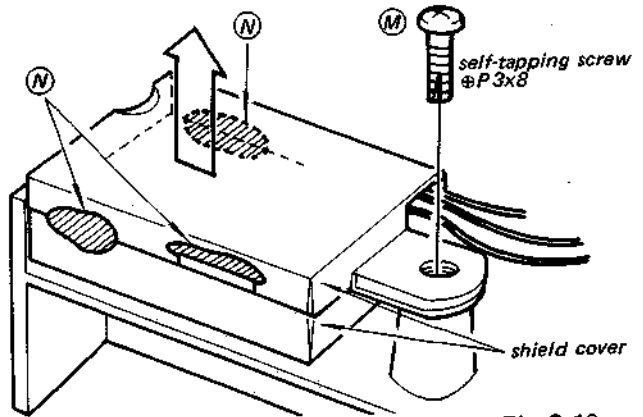

Fig. 2-10.
1. Remove the screw labeled (M) in Fig. 2-10.
2. Unsolder the three soldered portions labeled (N) on the shield cover.